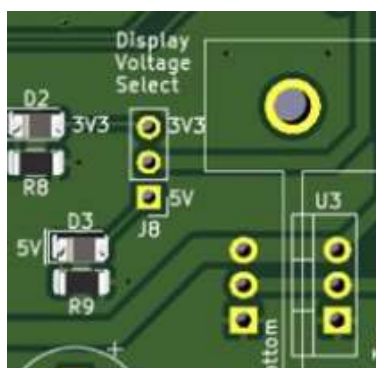

Figure 4. Display Voltage Selection Jumper.
OPTION 4: The display voltage is now selectable between 3.3V or 5V by the placement of the jumper on J2. Make sure the voltage is selected properly before connecting the display or you may damage it. See Figure 4.
8. Mount IDC pins at J2 and jumper the proper position for the voltage of your display. When in doubt, set it to the 3.3V position to start. See Figure 4.